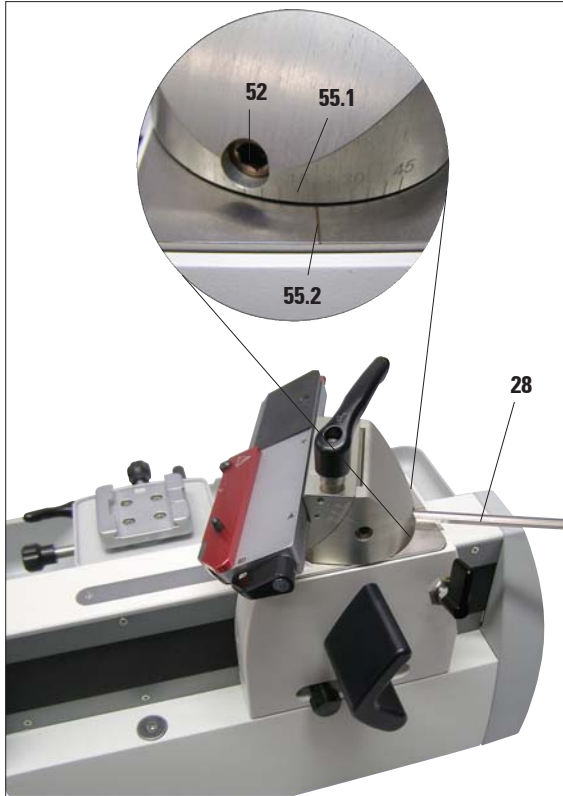

Fig. 19
- Mount the blade holder (9) on the grooved plate (50) such that the T-piece (53) on the underside is inserted in the groove (54).
- Push the blade holder fully to the back such that the T-piece can be inserted in the round insertion opening (56).
- Then turn the blade holder (9) through approx. 90° and insert the stopper (18) that closes the insertion opening (56), and tighten it firmly using the Hexagon wrench T25 (63).
- For clamping the blade holder on the groove plate, tighten the screw (52) at the back of the blade-holder base (17) using an Allen key SW 6 (63) (Fig. 19).